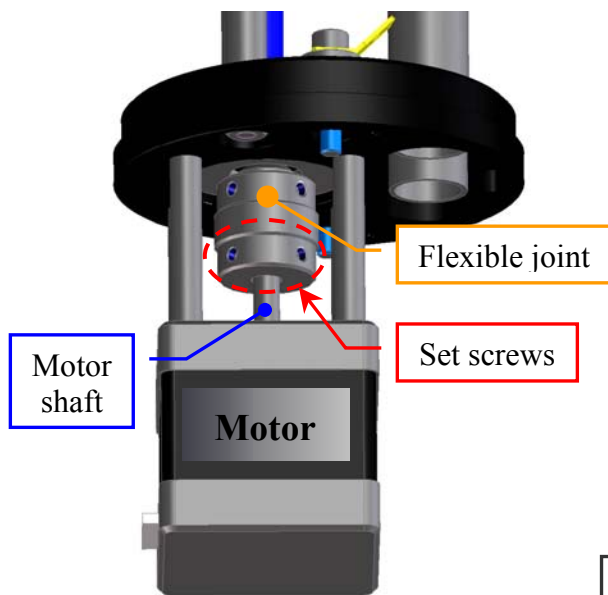
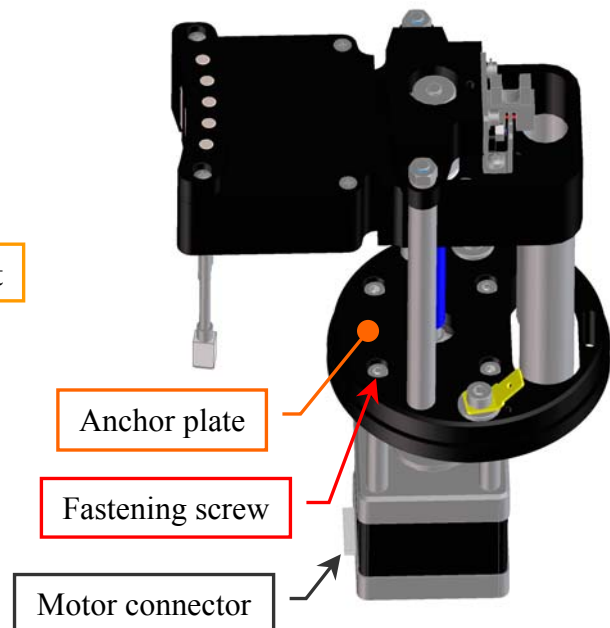

Fig. 124 – Set screws of the flexible joint
Fig. 125 – The four fastening screws of the Washing Station Motor
2. Unscrew (only) the two set screws of the flexible joint placed near the bottom side of it (**Fig. 124**).
3. Unscrew the four fastening screws of the Washing Station Motor (**Fig. 125**) and take out it from the anchor plate of the Washing Station (**Fig. 125**).
6. Position the new Washing Station Motor on the anchor plate with the side of the motor connector oriented towards the side of the Washing Station probes – as showed in **Fig. 125** – pushing the motor shaft in the flexible joint (**Fig. 124**), then screw the four fastening screws of the motor (**Fig. 125**).
7. Screw the two set screws of the flexible joint placed near the bottom side of it (**Fig. 124**).